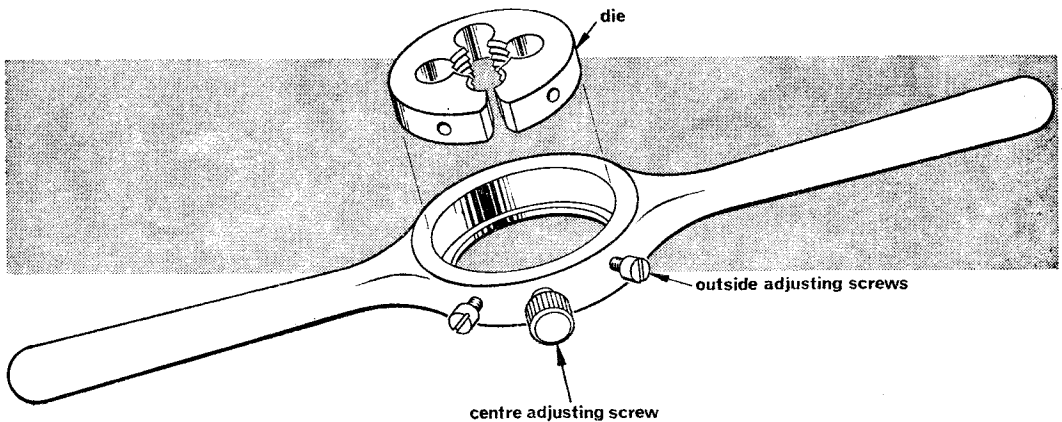

Fig. 8 Die and die stock
16. **Dies.** Dies are used for cutting *external* threads and consist of an internal hardened steel thread, fluted to form a cutting edge. The circular die has a standard outside diameter so that all sizes fit into a standard stock to form a complete tool (Fig. 8). The die is held in the stock by a knurled screw that beds into a split in the die. This split allows a slight adjustment of size to be made by two further screws on the stock. The threads at one end of the die are tapered for easier starting, and this end should be furthest away from the stock shoulder (Fig. 8).